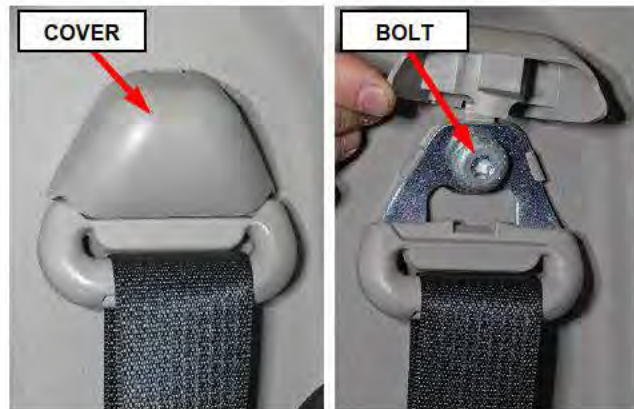

Figure 73 – Seat Belt Turning Loop
13. On the C-pillar, lift the seat belt turning loop cover then remove the turning loop bolt (Figure 73).
59. Using a **NEW** bolt and reusing the spacer washer, install the turning loop then tighten the bolt to 40 N·m (30 ft. lbs.) (Figure 73).
60. Install the seat belt turning loop cover (Figure 73).